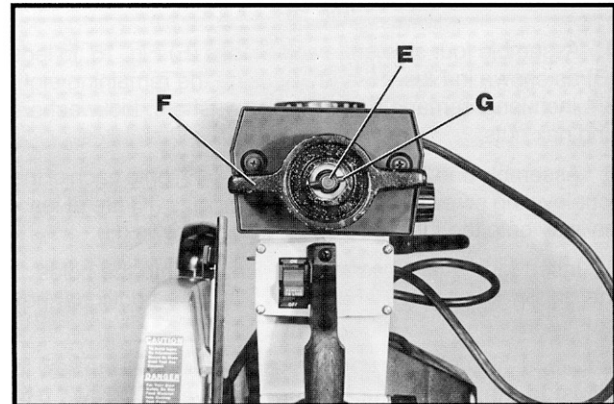
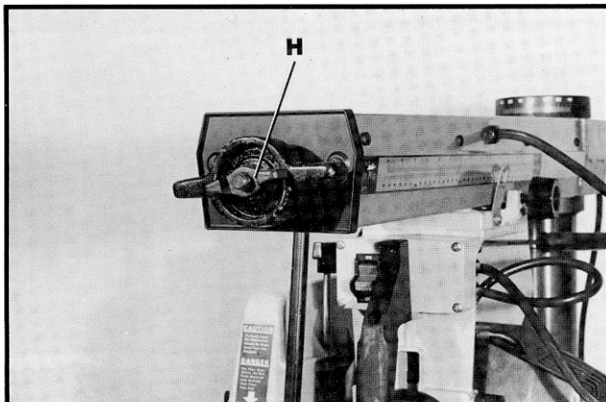

Fig. 12
Fig. 13
4. Insert roll pin (G) Fig. 12, through index rod (E). Back off clamp knob (F) Fig. 12, against roll pin (G) to hold the pin in position in the index rod (E).
5. Align recessed groove on the underside of index knob (H) Fig. 13, with roll pin (G) Fig. 12, and slide knob (H) Fig. 13, onto pin.